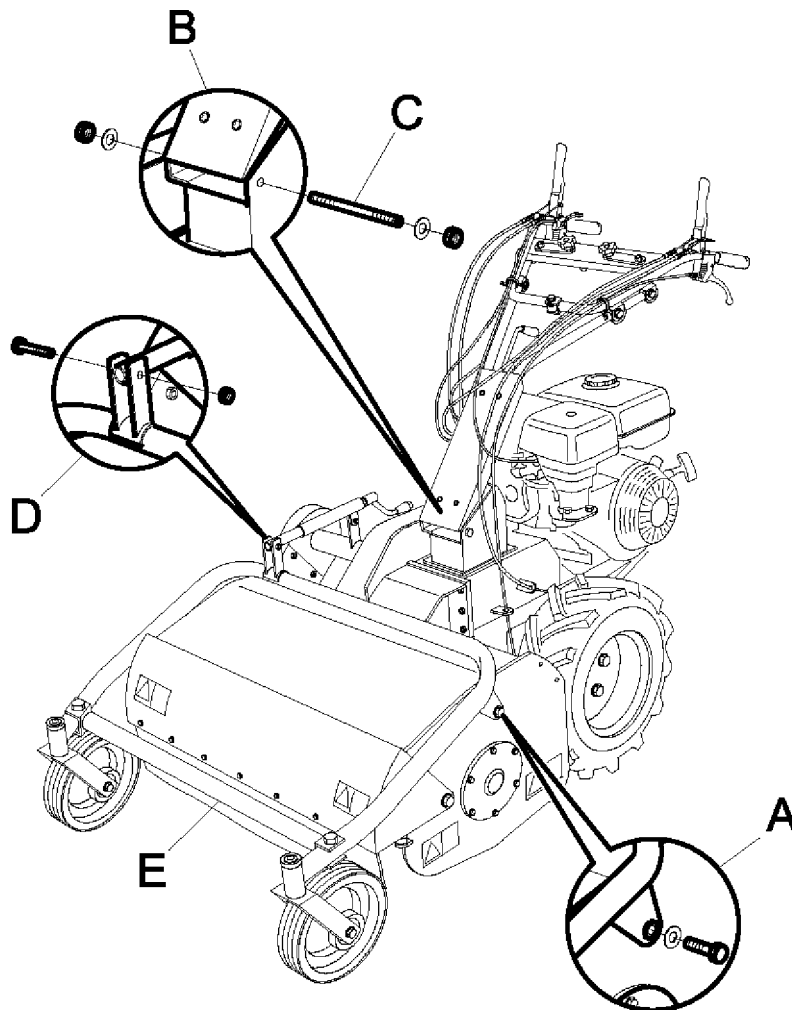

Figure 3
- Lift the handlebar and insert it in the support shown in Fig. 3 ref. B. Then fit the screw stay (Fig. 3 ref. C) through the relative holes and secure it on both sides using the screws and washers provided.
- Position the support with front wheels and connect the height adjustment piece (Fig. 3 ref. D) using the screw and washer provided. Fix it to both sides of the bonnet as well using the screws, washers and spacers provided, as shown in Fig. 3 ref. A.
- Fix the safety bar (Fig.3 ref. E) to the special holes on the two front sides of the wheel support using the screws, washers and nuts provided.